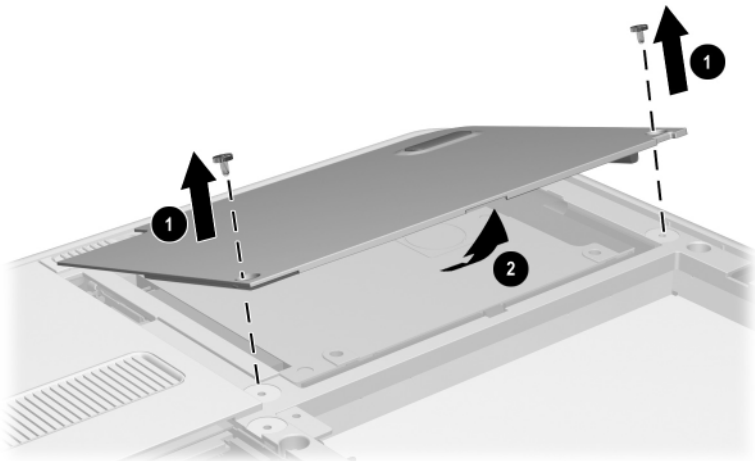

Figure 5-6. Removing the Hard Drive Cover
- b. Remove the two PM2.0 \times 4.0 screws ❶ that secure the hard drive cover to the tablet PC (Figure 5-6).
- c. Lift the front edge of the cover up and swing the cover back ❷.